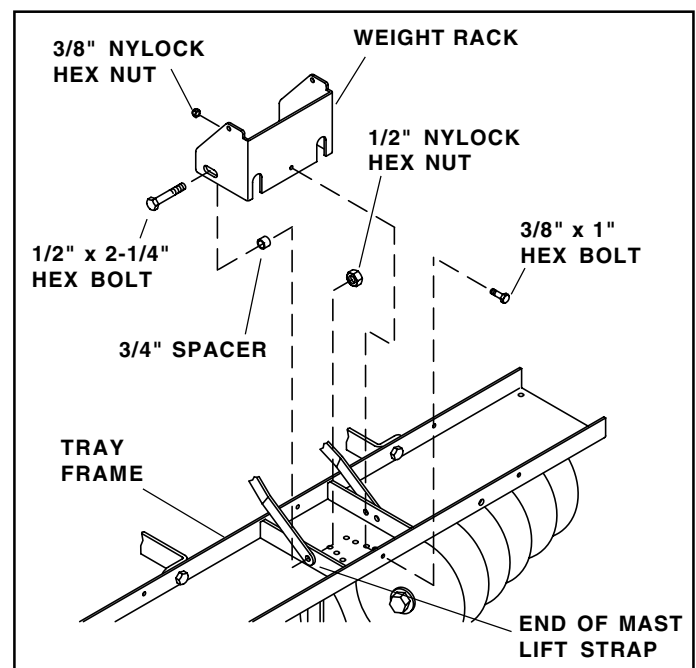
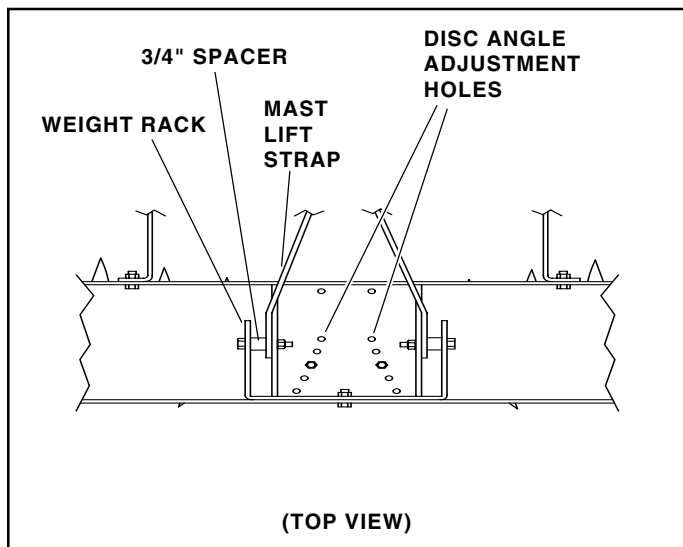

FIGURE 5
FIGURE 6
- Attach the weight rack to the back of the tray frame using a 3/8" x 1" hex bolt and a 3/8" Nylock hex nut. **Do not tighten yet.** See figure 5.
- Assemble the mast lift straps on the outside of the frame tray braces using two 1/2" x 2-1/4" hex bolts, 3/4" spacers and 1/2" nylock hex nuts. Place the spacer between the strap and the side of the weight rack. See figure 5. Refer also to figure 6.
To adjust the angle of a disc assembly, remove the innermost 3/8" x 1-1/2" hex bolt, 1.25" washer, and 3/8" Nylock hex nut that secures the disc anchor strap to the tray frame. Then move the disk assembly so that the anchor strap is lined up with the desired adjustment hole. Install the bolt and washer, then tighten the nut to lock in the setting. Repeat this procedure for the other disc assembly. See figure 6.